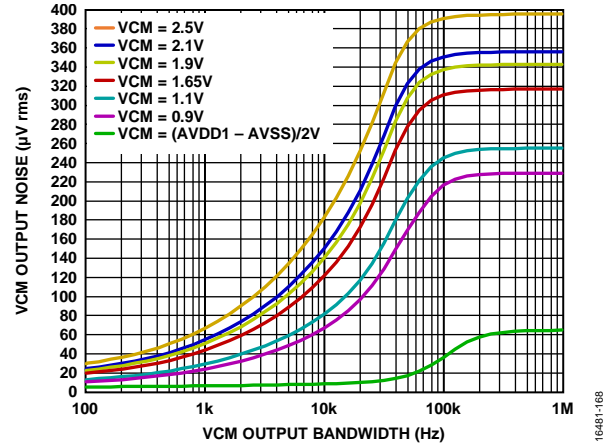

Figure 66. VCM Output Noise vs. VCM Output Bandwidth
Figure 66 is a simulation of the VCM noise for each VCM setting, plotted over a bandwidth of 100 Hz to 1 MHz. An external resistor capacitor (RC) filter is required to set the bandwidth to meet the VCM noise requirement. For example, a VCM output of 2.5 V has 180 µV rms of noise (see Figure 66). If the bandwidth is limited to 1 kHz, this noise can be reduced to approximately 65 µV rms (see Figure 66).